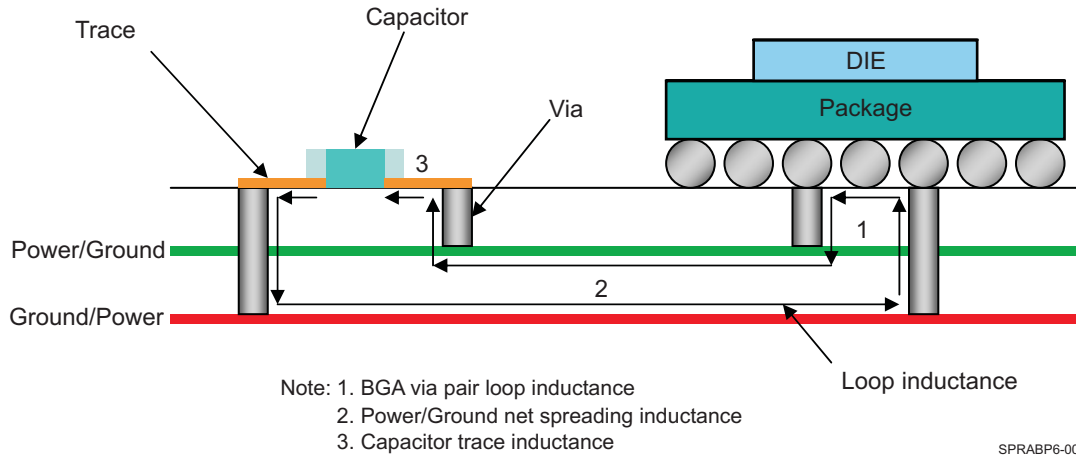
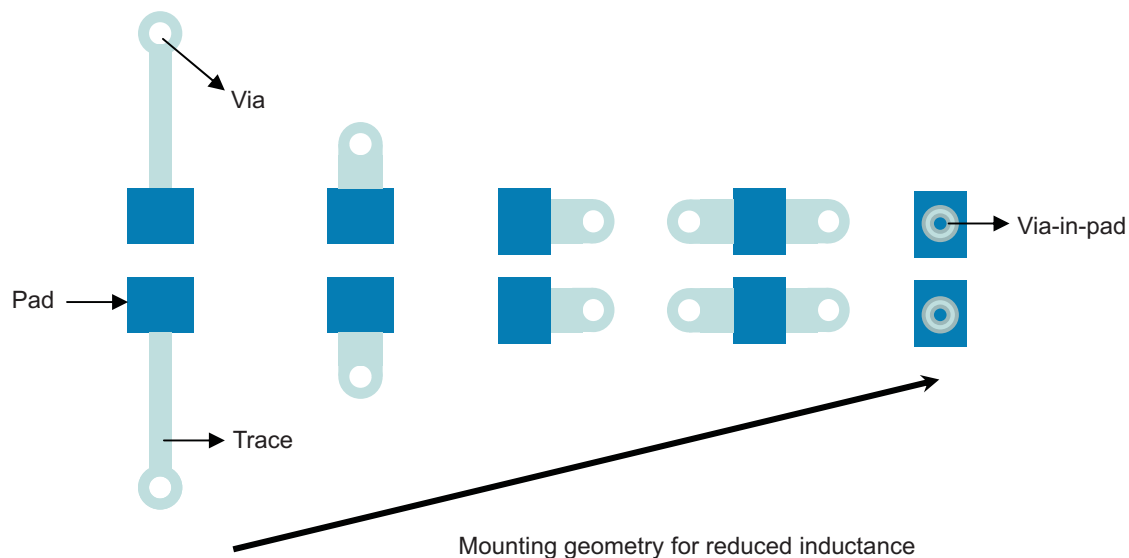

Figure 7-1. Minimize Loop Inductance With Proper Layer Assignment
Figure 7-15. Capacitor Placement Geometry for Improved Mounting Inductance
- Optimize the power and ground plane pair carrying high current supplies to key component power domains as close as possible to the same surface where these components are placed (see Figure 7-1). This will help to minimize "loop inductance" encountered between supply decoupling capacitors and component supply inputs and between power and ground plane pairs.
The placement of power and ground planes in the PCB stackup (determined by layer assignment) has a significant impact on the parasitic inductances of power current path as shown in Figure 7-1. For this reason, it is recommended to consider layer order in the early stages of the PCB PDN design cycle, putting high-priority supplies in the top half of the stackup (assuming high load and priority components are mounted on the top-side of PCB) and low-priority supplies in the bottom half of the stackup as shown in the examples below (vias have parasitic inductances which impact the bottom layers more, so it is advised to put the sensitive and high-priority power supplies on the top/same layers).
Wherever possible, mount the capacitor with the geometry that minimizes the mounting inductance and resistance. This was shown earlier in Figure 7-1. The capacitor mounting inductance and resistance values include the inductance and resistance of the pads, trace, and vias. Whenever possible, use footprints that have the lowest inductance configuration as shown in Figure 7-15
The length of a trace used to connect a capacitor has a big impact on parasitic inductance and resistance of the mounting. This trace must be as short and as wide as possible. Wherever possible, minimize distance to supply and Gnd vias by locating vias nearby or within the capacitor's solder pad landing. Further improvements can be made to the mounting by placing vias to the side of capacitor lands or doubling the number of vias as shown in Figure 7-15. If the PCB manufacturing processes allow it and if cost-effective, via-in-pad (VIP) geometries are strongly recommended.
From left (highest inductance) to right (lowest inductance) the capacitor footprint types shown in Figure 7-15 are known as:
1. Use lowest inductance footprint and trace connection scheme possible for given PCB technology and layout area in order to minimize Dcap loop inductance to power pin as much as possible (see Figure 7-15).